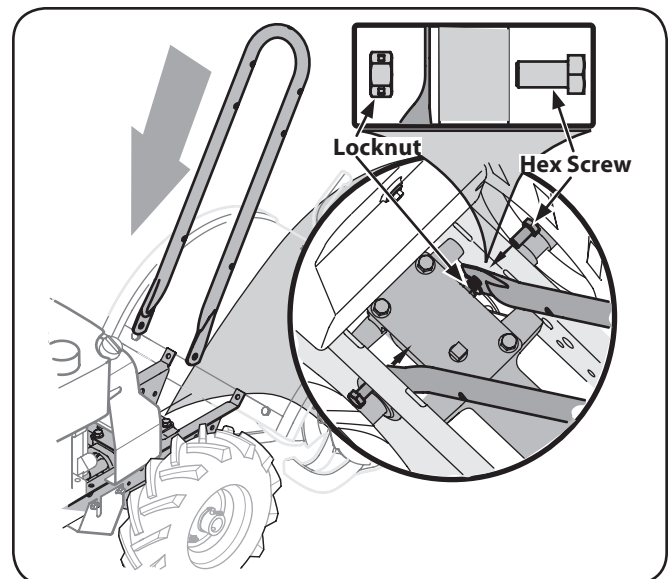

Figure 3-1
1. Loosely attach the legs of the handlebar support to the inner sides of the tiller frame. Using two $\frac{5}{16}$ "-18 x $\frac{3}{4}$ " hex head screws and $\frac{5}{16}$ "-18 hex locknuts attach the handle through the hole in the frame closest to the engine. See Fig. 3-1..